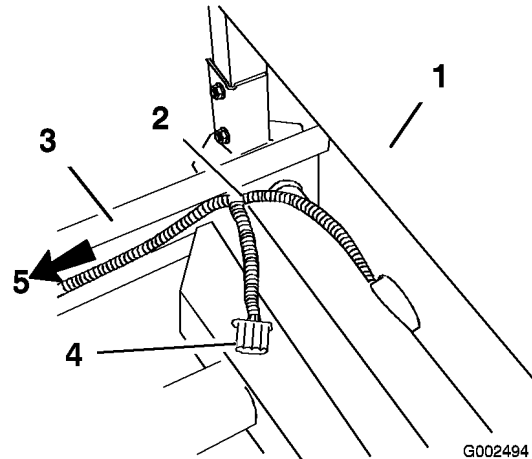

Figure 9
11. At the ROPS cover, rear of the seat assembly, route the wiring harness up from under the seat and above the frame. Make sure the spray system power connector is out from underneath the vehicle (Figure 9).
12. Route the harness along the left frame and back to the speed sensor with the existing wiring (Figure 9).